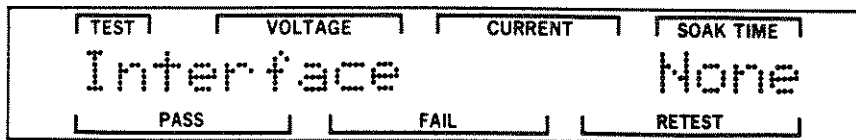

Figure 7-52. Interface Select Screen
STEP 25. Press the UP or DOWN pushbutton until the Interface Select screen is displayed. Figure 7-52 is an example of this screen.